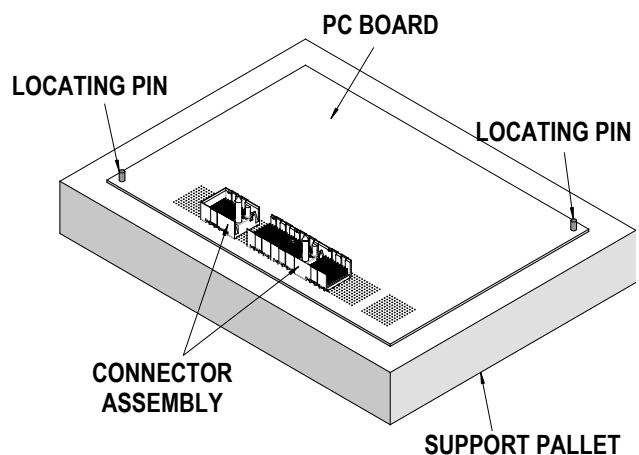

Figure 2-6
2. Place the pre-loaded board into the support pallet (Optional). See Figure 2-6.